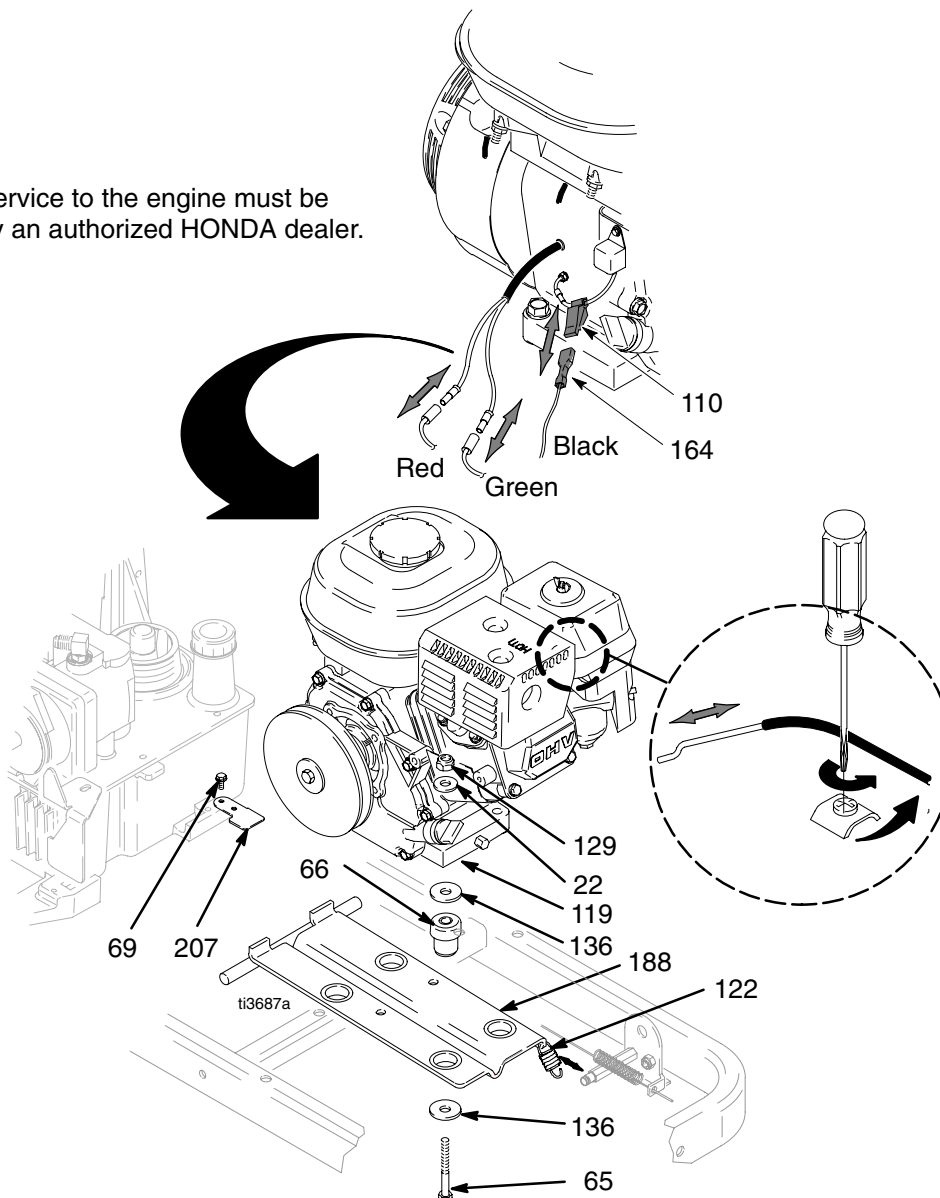

Fig. 6
4. Loosen cap screw (69). Swing motor retainer bracket (207) out.
6. Fig. 6. Disconnect red, green and black leads from engine (119).
7. Remove engine and rocker plate (188) from sprayer.
8. Remove four screws (65), washers (22) and nuts (129) and remove rocker plate, dampeners (66) and washers (136) from engine.